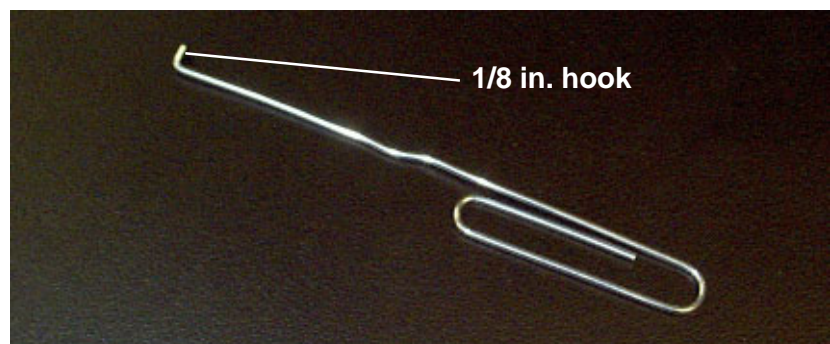

Figure 44. Paper Clip Tool for Removing Brake
4. Unbend the outer tine of a paper clip. (The 1-3/4 in. long clips work just fine!) With a needle-nose pliers, bend the end of the paper clip to form about a 1/8 in. hook (Figure 44).